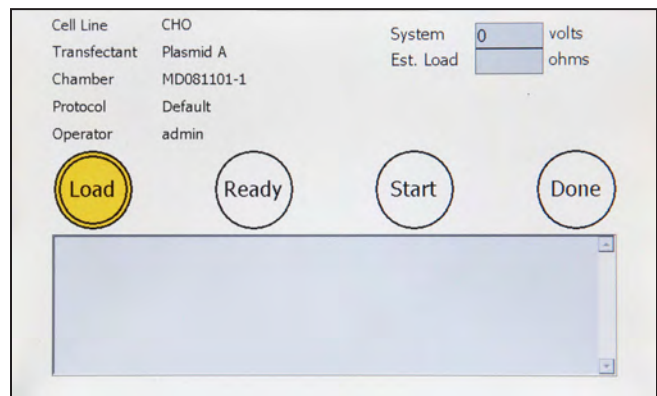

Figure 9: Pulse Delivery Screen — Pre-Pulse
5. Touch the Start button. The Figure 9: Pulse Delivery Screen – Pre-Pulse system will deliver the set pulse protocol. When delivery is complete, the Done button will turn green and the pulse log will be displayed in the text box.